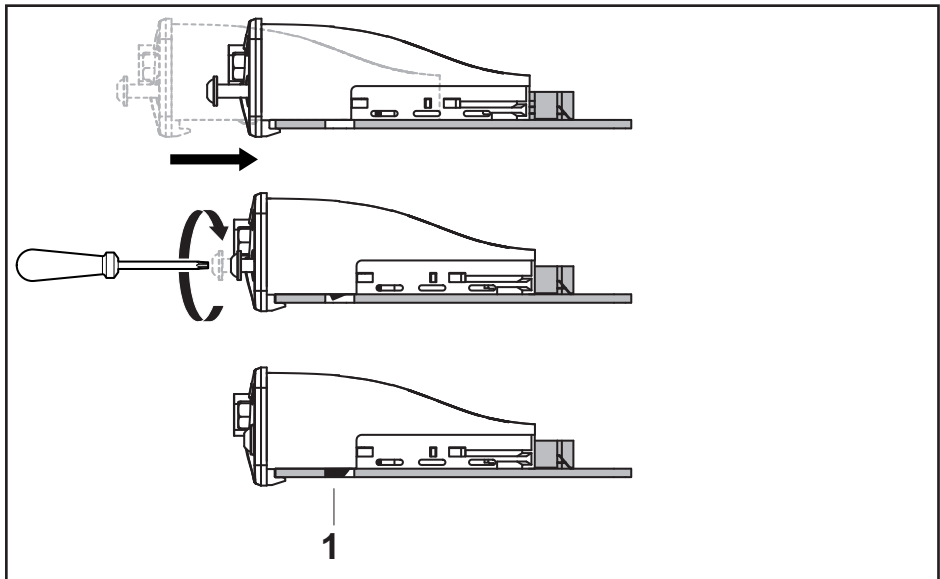

Fig. 3: Lock effect
3. Tighten the torx screws on the front until the front panel is flush. The circuit board is locked by turning the screw. This lock is only fully functional once the interface has been properly tightened (see Fig. 3).